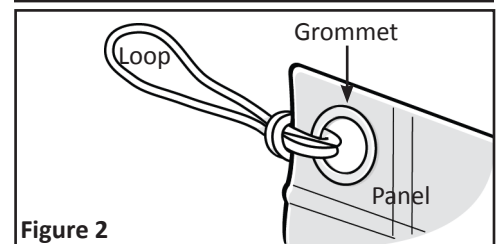

Figure 2
5. Tie one of the supplied cords to the Panel as shown. See **Figure 2**.